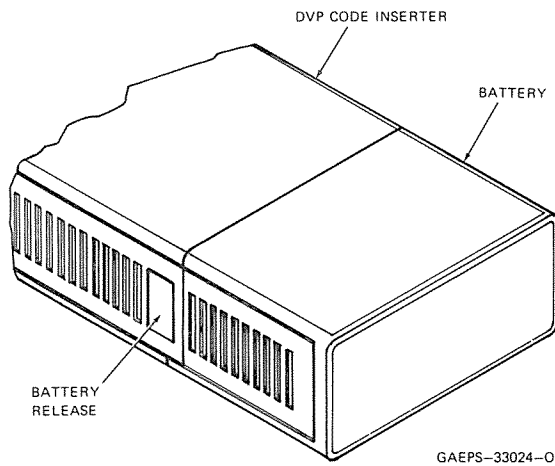

Figure 6. Battery Release
Step 2. Hold the *DVP* code inserter in the left hand and press the battery release with the left thumb. (See Figure 6.)